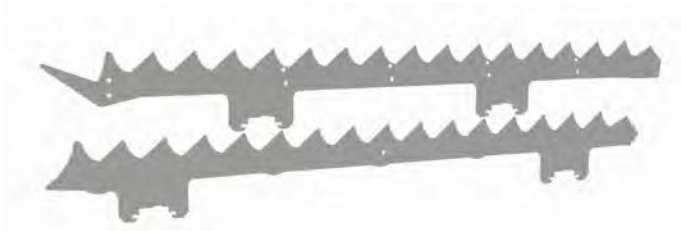

Figure 2, lamellae bar package elements (fixed & moveable)
2. Lamellae bar rack package (made of moveable and stationary bars (Figure 2)).